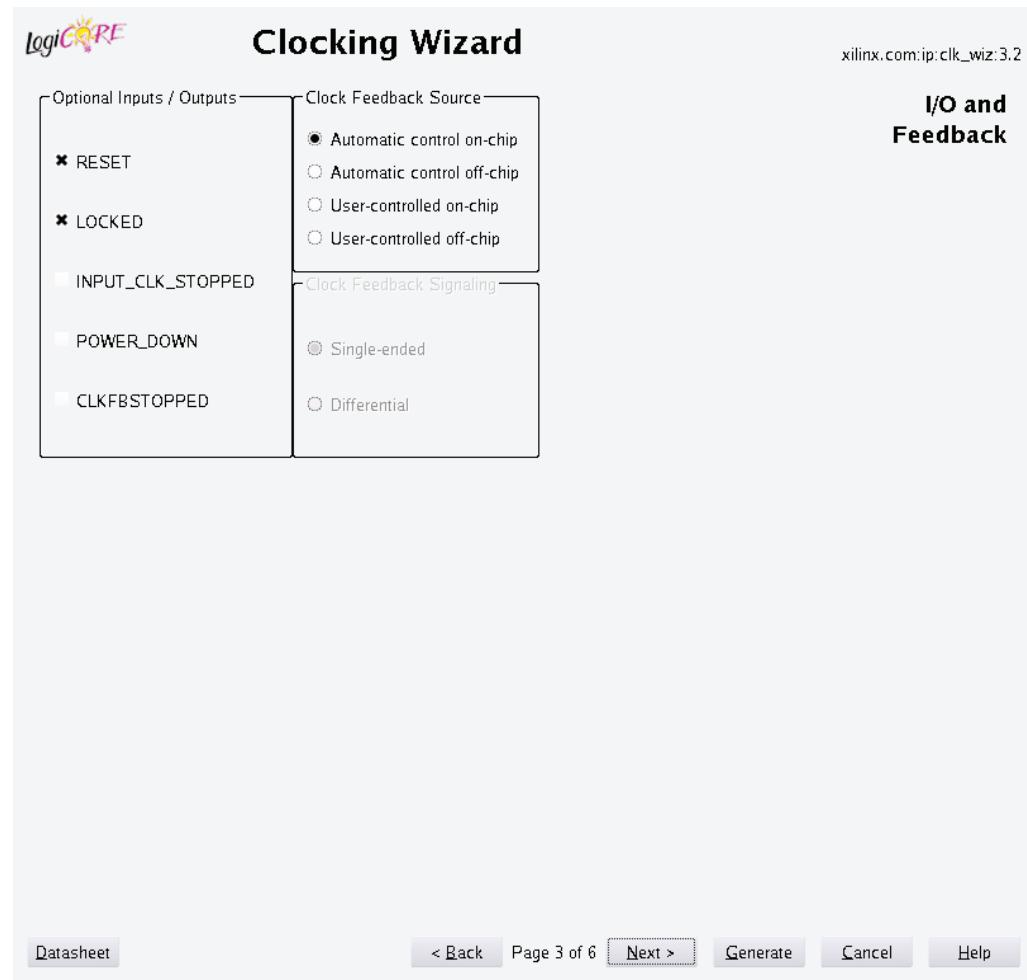

Figure 67: Clocking Wizard I/O and Feedback Settings
60. Enable the RESET and LOCKED signals, then click **Next** (Figure 67).